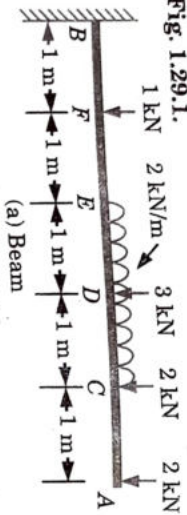

Fig. 1.29.1.
Que 1.29. Draw the SFD and BMD diagrams for a cantilever loaded as shows in Fig. 1.29.1.
Given : Fig. 1.29.1.
6. BM diagram is shown in Fig. 1.29.1(b).